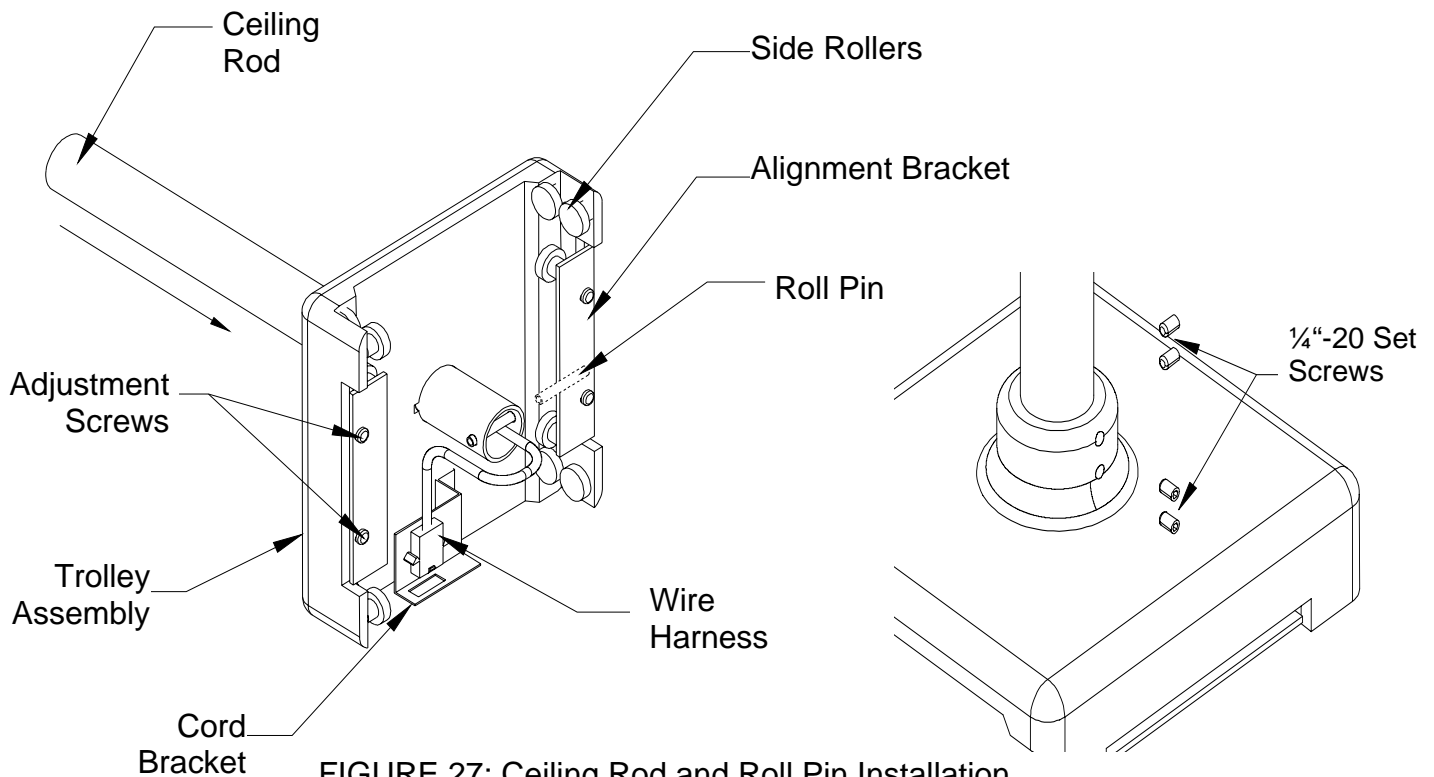

FIGURE 27: Ceiling Rod and Roll Pin Installation
- Remove the ¼" by 2" roll pin taped down in the trolley assembly. Insert the pin into the ceiling rod end that has one hole in both walls. The pin should extend the same amount on both sides of the ceiling rod. Install the ceiling rod into the trolley and allow the roll pin to rest in the indentation in the trolley. See figure 27.
- Slide the trolley with the installed ceiling rod back onto the track. The cord-mounting bracket in the trolley should be positioned so it is next to the mating Molex connector on the power cord. Ensure that the trolley rolls freely along the track. If adjustment is necessary loosen the adjustment screws and position the side rollers against the base track extrusion as shown in figure 27. Retighten the screws.
- Ensure the power cord lays flat within the track. Attach the Molex connector to the mating connector on the trolley assembly. See figures 27 and 28.